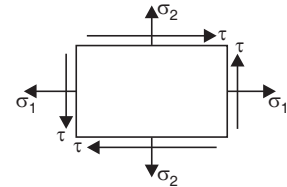

FIGURE 8.21. Mohr's circle.
98. Figure 8.21 shows a body subjected to two unequal like direct stresses (σ_1 and σ_2) in two mutually perpendicular planes along with a simple shear stress (τ). The maximum normal stress will be